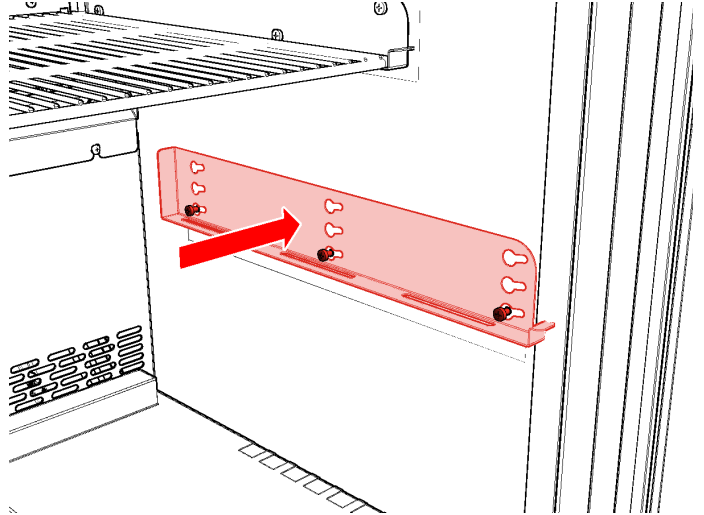
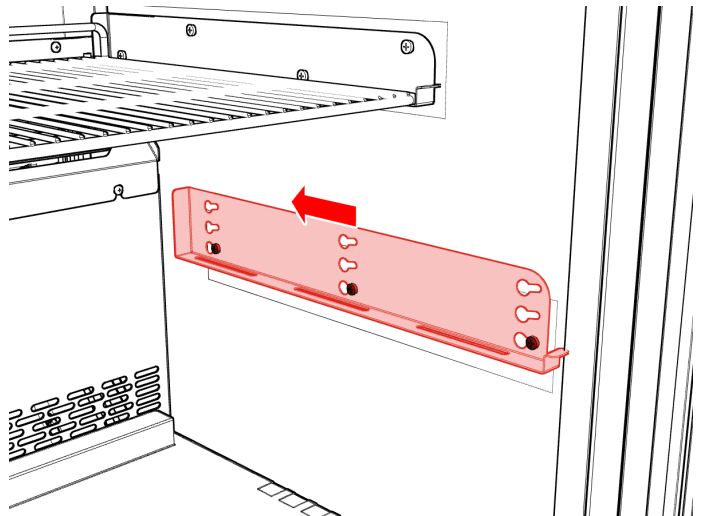

Fig. 26
Fig. 27
3. Reinstall rails by placing keyholes at intended shelf height on screws in freezer wall (Fig. 26). Slide rails back, then tighten screws to fasten rail in place (Fig. 27).